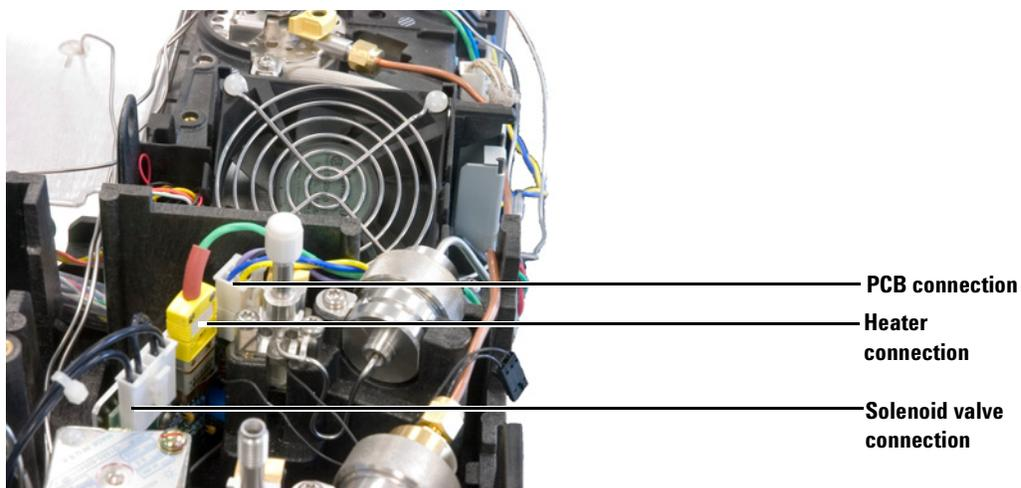

Figure 15 CO₂ assembly board connections
- 5 Plug the thermocouple wire into the thermocouple connector on the PTV board, matching positive and negative connectors. See Figure 15.